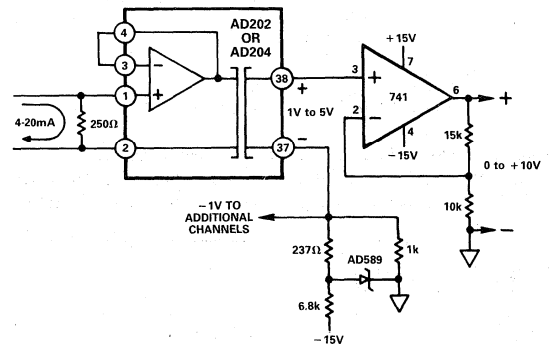

Figure 18. Process Current Input Isolator with Offset
**Process Current Input with Offset.** Figure 18 shows an isolator receiver which translates a 4-20mA process current signal into a 0 to +10V output. A 1V to 5V signal appears at the isolator's output, and a -1V reference applied to output LO provides the necessary level shift (in multichannel applications, the reference can be shared by all channels). This technique is often useful for getting offset with a follower-type output buffer.